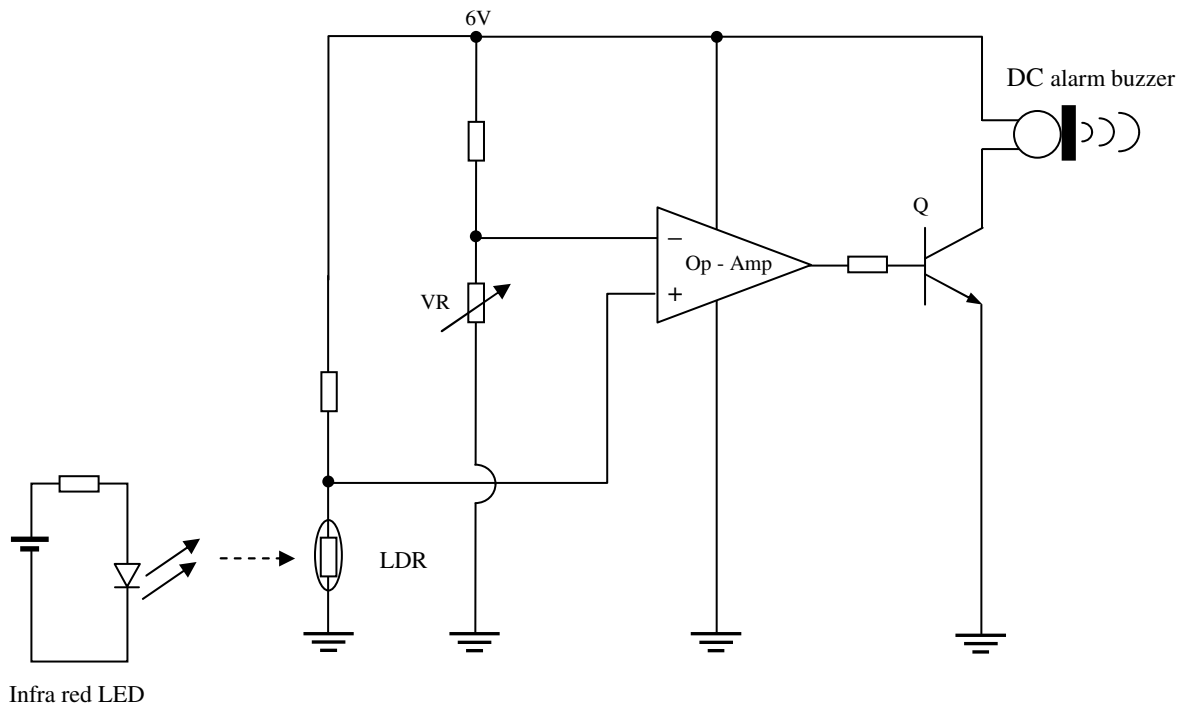

Figure 11(a)
- (b) Figure 11(a) shows an electronic alarm circuit using a typical LDR (resistance decreasing with light received).